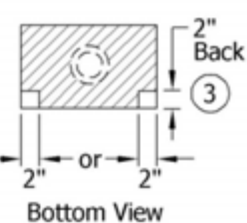

FIGURE 4
- ① Service lateral conduits, firmly secured with a locknut, hub or bushing, must enter bottom of pull can. Maximum conduit intrusion inside pull can is 1". Load conduits must exit above shaded area. See pages SG 309.1 – 309.3 for service lateral conduit requirements.
- ② Bonding connection for service lateral conduits only is permitted at bottom of can. Any other bonding or grounding connection must be made above the shaded area and no grounding or bonding conductor is permitted to pass through shaded area.
- ③ In the combination underground pull and disconnect can (see Figure 4) the grounding electrode conductor or bond jumper may be installed in a fully enclosed, factory-installed wireway (2" x 2" maximum) located in either back corner of the pull can area (see Figure 4 Bottom View). The raceway may not impede the required working space or reduce any specific clearances.
- ④ Shaded area is for Utility service lateral conductor only. See Note 2 for exception.
- ⑤ Terminating facilities for Utility's service lateral conductors shall be aluminum-bodied mechanical lugs with a range accepting one No. 4 AWG through 500 kCMIL conductor. One lug shall be provided for terminations rated up to 400 amps and 2 lugs for terminations rated 401-800 amps. Refer to page SG 707.2 Note 3 for exception that allows a single lug for 600 ampere special application.
- ⑥ Maximum height from standing surface to centerline of mechanical lug is 60". Utility may approve greater height due to special circumstances. Consult with the Utility.
- ⑦ Dimension "W" is the minimum width of the pull can access opening and is measured between the left side and right side return flanges; not interior walls of pull can.
- ⑧ When viewed from front of pull can, return flanges shall not extend closer than ¾" from the outside edge of mechanical lug.
- ⑨ 1" minimum side clearance is required from side of pull can to any other equipment or obstruction.
- ⑩ All pull cans shall have full front access. Cover panels shall be removable, sealable, provided with two lifting handles, and limited to a maximum of 9 square feet in area. Sealing provisions shall consist of two drilled stud and wing-nut assemblies on opposite sides of the panel. See page SG 503 for sealing requirements. A minimum of 4" is required from the bus to the inside of the panel cover and 1" minimum from the bolt termination to the inside of the panel cover.
- ⑫ In pull cans rated 0 – 800 amps, either bus bar or cable connections may be used from the top of the cable termination bus to serve a Current Transformer (CT) compartment, a single main disconnect, and multiple main disconnects.
- ⑬ A main service or meter service disconnect is not permitted on the supply (line) side of a single meter.